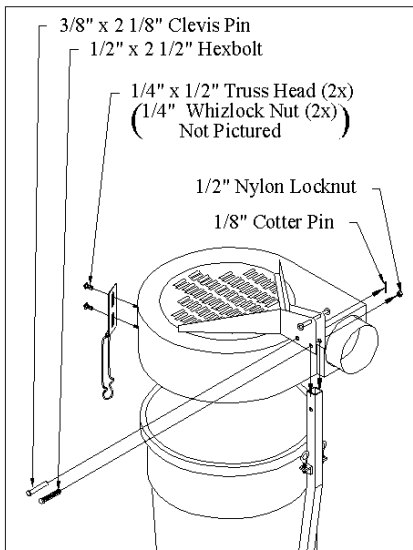

Fig. 4
4. Place container (21) in container frame. Install foam seal to molded top where container and top will make contact. Set top assembly on can with top support bracket astride the vertical upright. Align pivot hole on top support to hole on vertical upright, do not force fit this alignment, if holes do not line up, move vertical upright up or down on the frame (2) until proper alignment is achieved and tighten. Secure with 1/2" x 2 1/2" HHC and nylock nut. Tighten until slight drag can be felt when pivoting molded top. Pivot top up and attach springs (19) to eyebolts and spring retainers on top support. Lower top assembly to operating position and immediately slip clevis pin (20) thru locking pin hole on top support. Secure pin with 1/8" x 1" cotter key. Attach latch to molded top with 1/4" x 1/2" truss head bolt and 1/4" whizlock nuts. Fig. 4